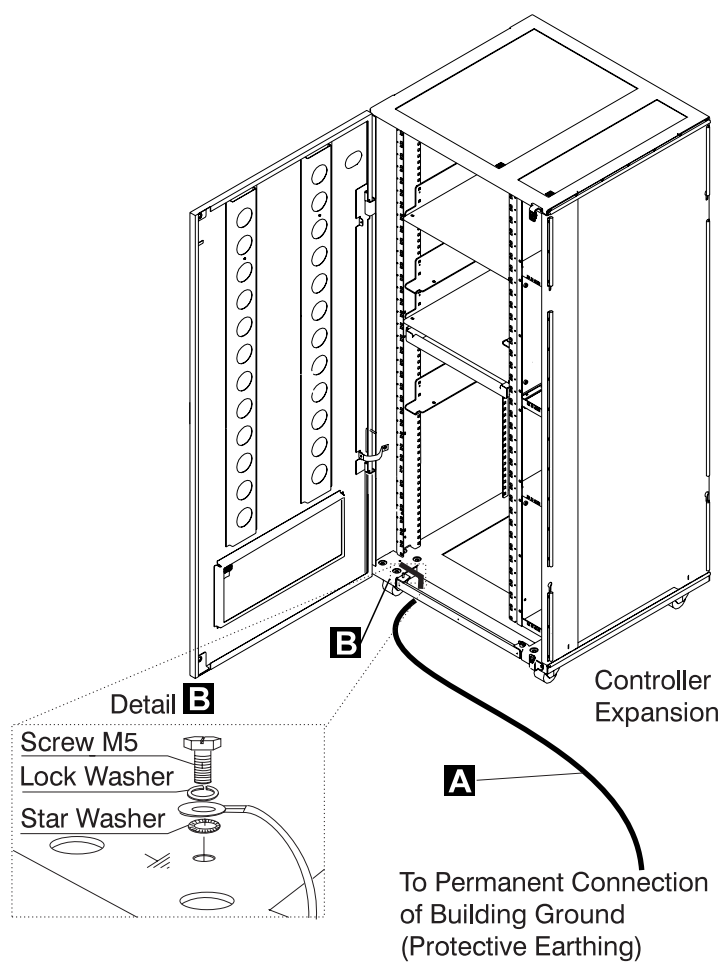
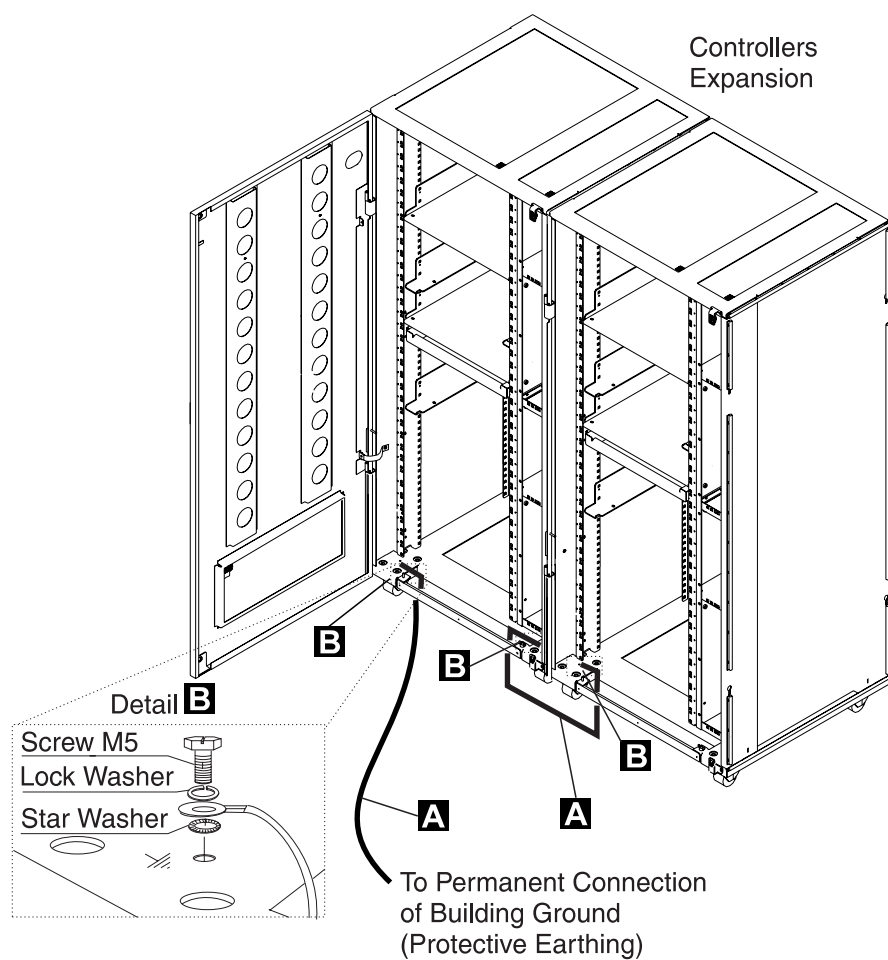
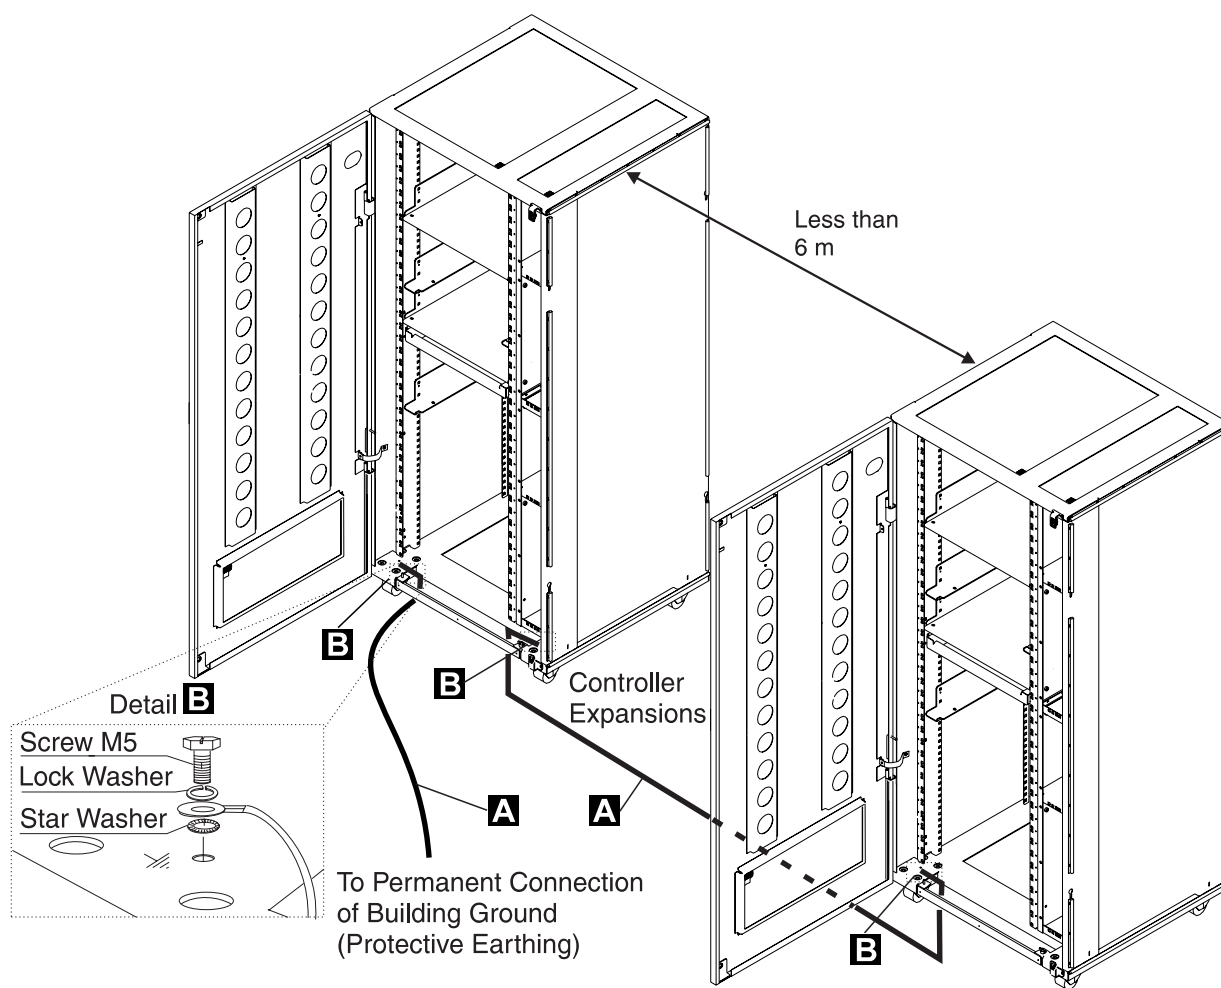
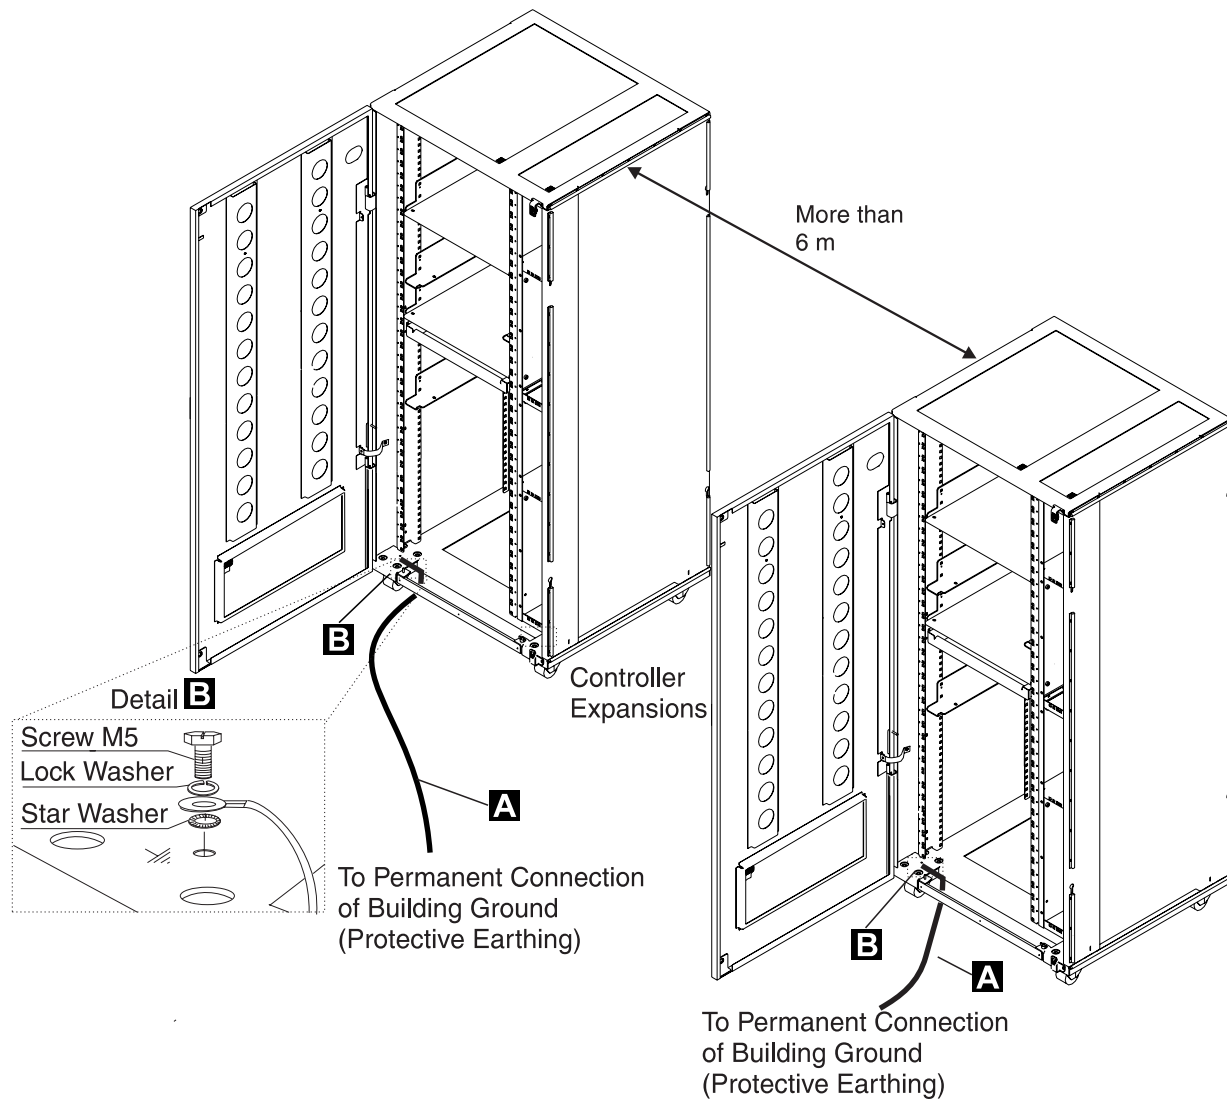

Figure 0-3. Ground Wire Connection On Controller Expansion
Figure 0-4. Ground Wire Connection Between Attached Controller Expansions
Figure 0-5. Ground Wire Connection Between Controller Expansions at less than Six Meters
Figure 0-6. Ground Wire Connection Between Controller Expansions at more than Six Meters
Do not remove the power cord and ground strap **A** of the controller expansion in order to maintain the ground protection (see Figure 0-3 on page xxvii, Figure 0-4 on page xxviii, Figure 0-5 on page xxix, or Figure 0-6 on page xxx).
- For the controller expansion, an additional ground wire **A** is also used (see Figure 0-3 on page xxvii, Figure 0-4 on page xxviii, Figure 0-5 on page xxix, or Figure 0-6 on page xxx).
- If you have only one controller expansion installed, check that the ground wire **A** is installed (see Figure 0-3 on page xxvii).
- If you have several controller expansions installed, check that the ground wires **A** are installed according to your configuration (see Figure 0-4 on page xxviii, Figure 0-5 on page xxix, or Figure 0-6 on page xxx).